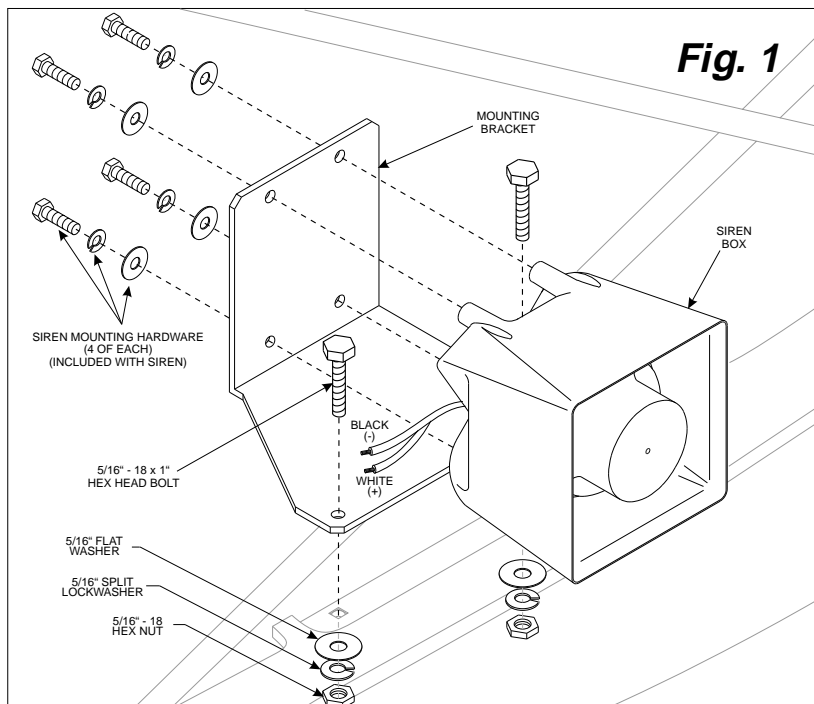

Fig. 1
1. Open the hood and locate the two plastic reusable rivets on the top plane of the bumper (*see fig. 1*). These rivets are located on the passenger-side of the hood latch and are situated in a recessed area. Remove these rivets by pulling the rivet head up approximately one half inch. The rivet assembly can now be removed and discarded. Repeat procedure for the second rivet.